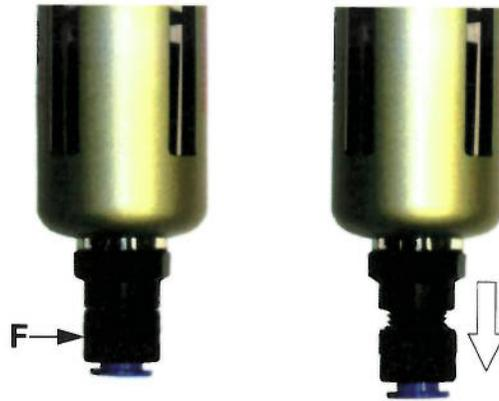

fig.19
- Open the bleed screw **F** (**only with the discharge pipe connected!!**) turning it anti-clockwise (seen from below). The condensate can now flow out. Once finished the draining, close the bleed screw tightly (fig.19).